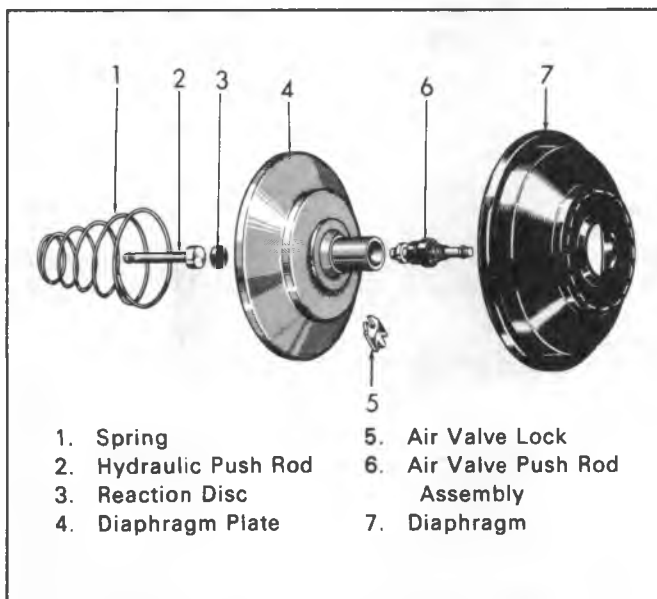

Fig. 6B—Bendix Power Cylinder Components (Typical)
11. Disassemble power piston (fig. 6B).
4. Assemble power piston assembly (see fig. 6B).